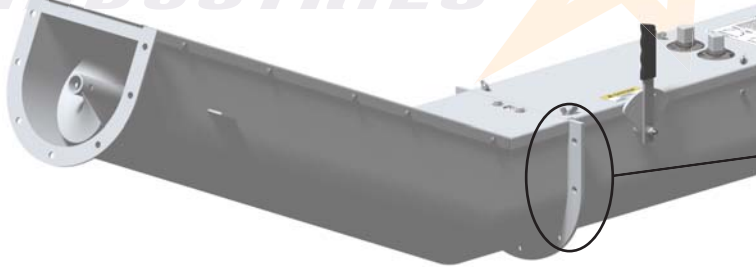

Figure 38
Using seven (7) 1/2" x 1 1/2" Bolts and seven (7) 1/2" Nylon Locknuts, secure the Incline Assembly to the U-Trough. (see **Figure 38**)